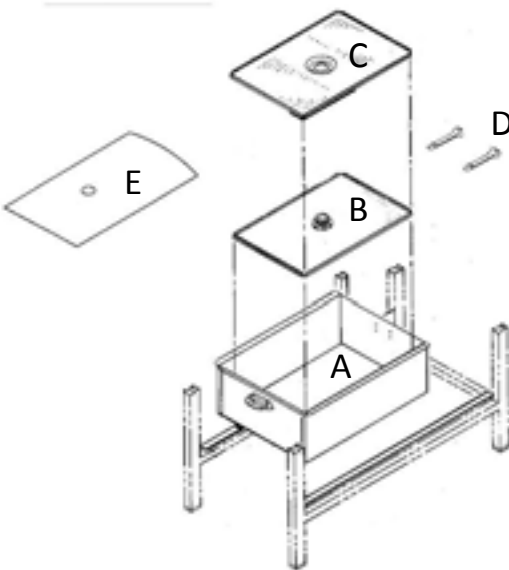

Figure 3.
5. Inspect to make sure all of the filter pan components exist and are assembled correctly (figure 3.)